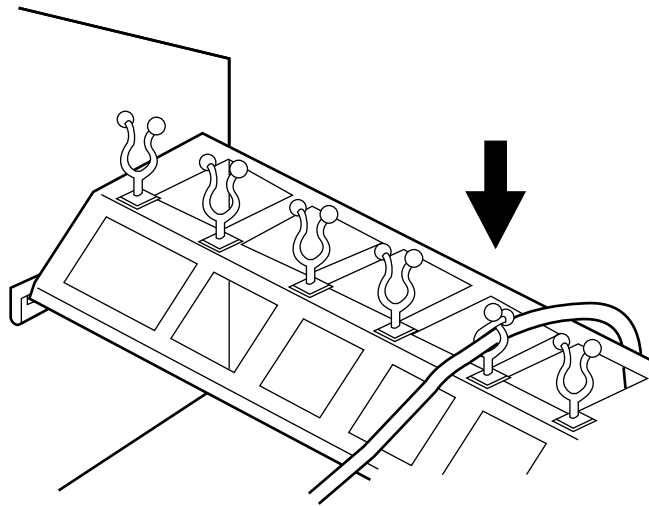

FIGURE 8-25. Securing Each Cable
14. Drape each interface cable through its plastic twist lock and twist the top ends of the lock to secure each cable. The loose ends of the interface cables go out the back of the cabinet. See Figure 8-25.